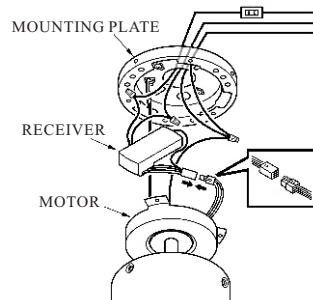

FIG.5
2. Connect the pin connector between motor and receiver. Connect white wire from ceiling to white wire from receiver with wire nut. Connect black wire from ceiling to black wire from receiver with wire nut. Connect the green wire from ceiling fan and green wire from mounting plate with green wire from fan with wire nut. (see fig.5)